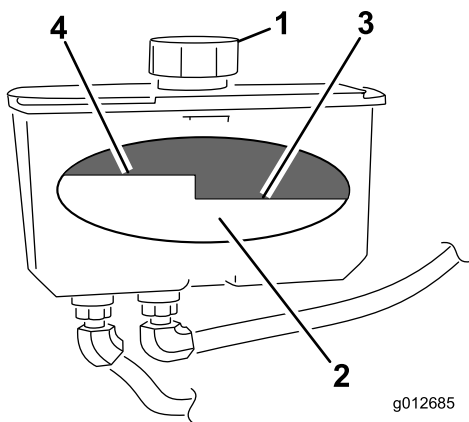

Figure 71
4. Clean area around cap and filler neck of hydraulic tank (Figure 71).
5. Remove cap from filler neck. Look inside to check the fluid level in the reservoir. (Figure 71).
- Note:** The fluid level should be to the top of the hot level of the baffle, when the fluid is warm (Figure 71).